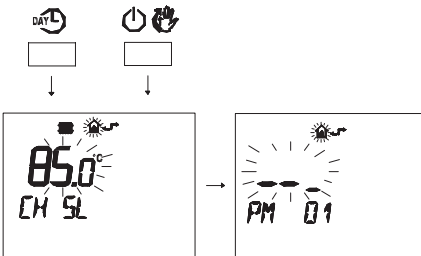

Fig. 7.37
- Press buttons **DAY** and **POWER** at the same time to enter transparent programming (Fig. 7.37).